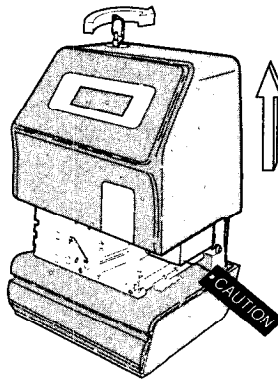

Figure 2
3. Unlock the cover. Then lift the cover up and off the Patriot™ (see Figure 2).